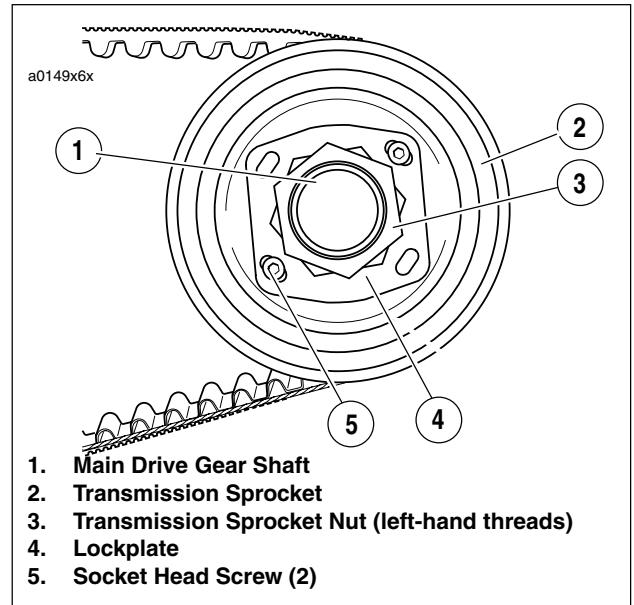
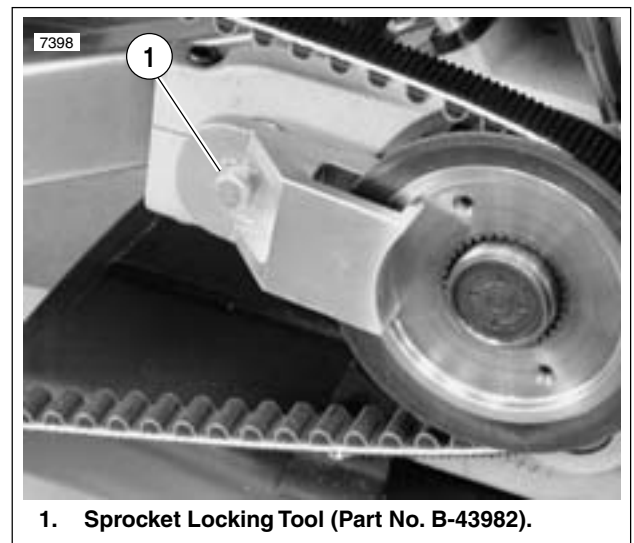

Figure 6-63. Transmission Sprocket
Figure 6-64. Sprocket Locking Tool
- See Figure 6-63. Place transmission in first gear. Remove two socket head screws (5) and lockplate (4).
- See Figure 6-63. Remove transmission sprocket nut (3) from main drive gear shaft (1).
- See Figure 6-64. Secure pulley using SPROCKET LOCKING TOOL (1) (Part No. B-43982).
- See Figure 6-63. Install transmission sprocket (2) with secondary drive belt onto main drive gear shaft (1).
- Apply a few drops of LOCTITE® thread locker 262 (red) to the **left-hand threads** of transmission sprocket nut (3). Position nut with washer-faced side facing transmission sprocket. Turn the nut **counterclockwise** to install it onto main drive gear shaft.
- See Figure 6-64. Install SPROCKET HOLDING TOOL (1) (Part No. B-43982) as shown.
- See Figure 6-63. Install lockplate over nut so that two of lockplate's four drilled holes (diagonally opposite) align with sprocket's two tapped holes.
5. See Figure 6-63. Install two socket head screws through aligned holes of lockplate and into tapped holes of sprocket. Tighten to 90-110 **in-lbs** (10-12 Nm).